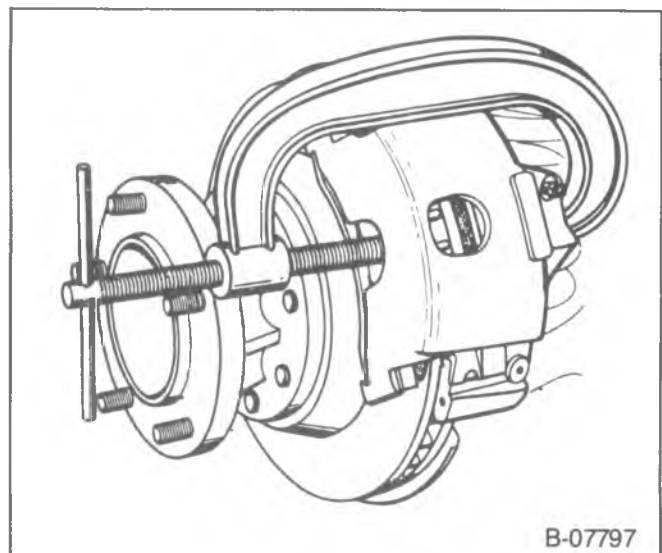
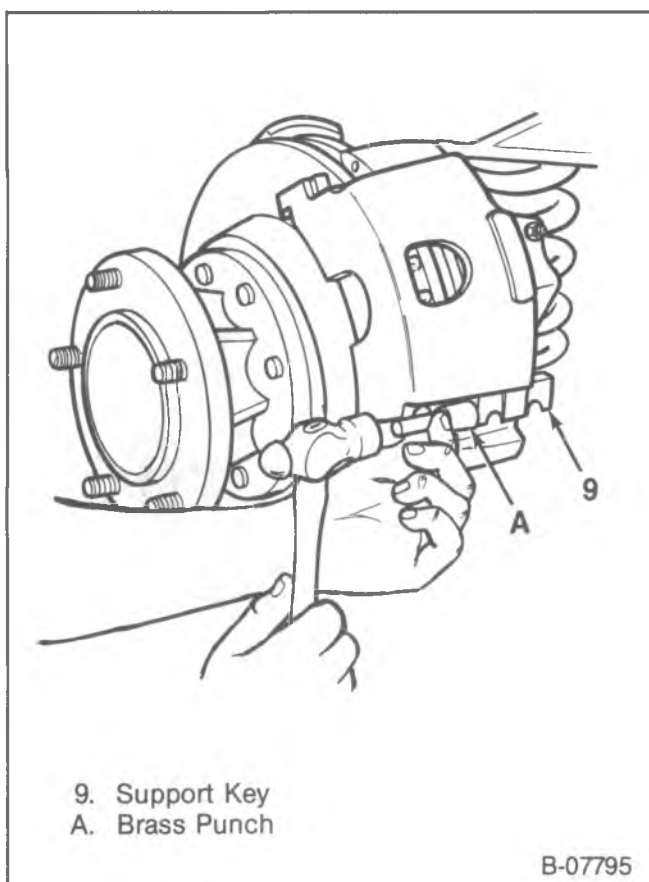

Figure 11—Compressing the Caliper Piston
Figure 12—Removing the Support Key
- Position C - clamp and tighten until the piston bottoms in its bore (figure 11).
3. Bolt (8).
4. Support key (9) and spring (10).
- Use a brass punch and a hammer to drive the support key out (figure 12).